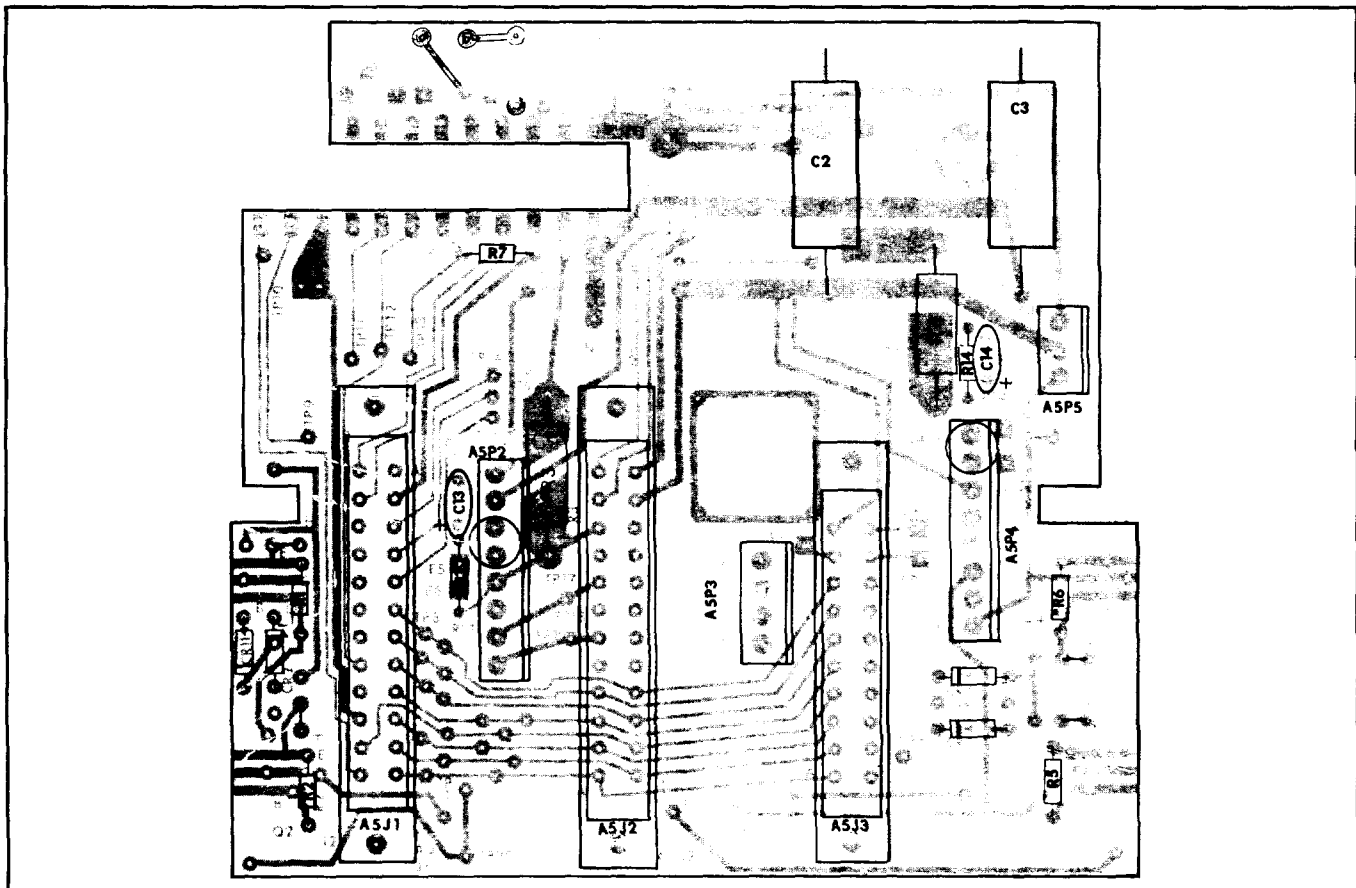

Figure 5-4. A5 Motherboard PC Assembly
- a. On the A5 Motherboard in the plug-in, connect DVM between A5TP5 and A5TP6 (Figure 5-4).